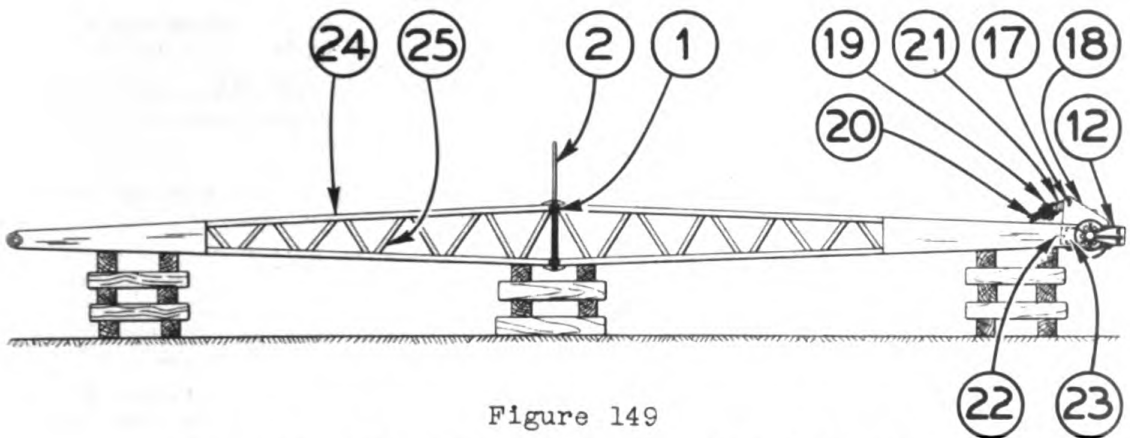

Figure 149
Crane, Clamshell, Dragline and Pile Driver boom point sheave assembly shown in Figure (150), Page (173), is disassembled by taking out bolts (3), removing cable guard (4), taking out eight bolts (5) and removing guards (6) and (7). Next, take out cotters (8) and remove washer (10) and spacers (11). Slowly drive shaft (9) out of yoke (12), taking off boom suspension sheaves (13), spacers (14), hoisting sheaves (15) and thrust washer (16) as they are freed from the shaft (9). To disassemble boom suspension sheave block assembly, figure 149, close and pull cotter from pin (17); take out pin and remove block assembly from bracket (18). Next close and pull cotter in pin (19); take out pin and remove sheave (20) from housing (21). Remove bolts and take off bracket (18).